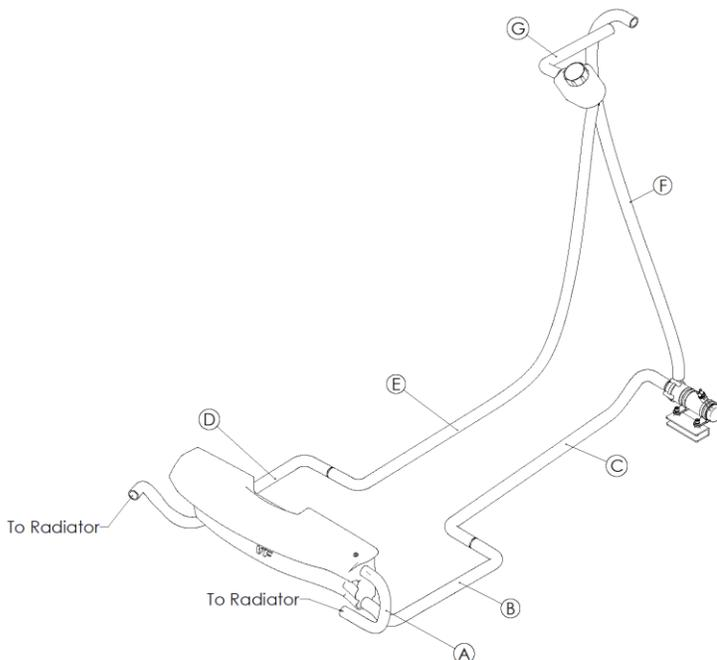

Figure 12
- Lay out the water hoses (4) in order to familiarize yourself with the routing (figure 12).